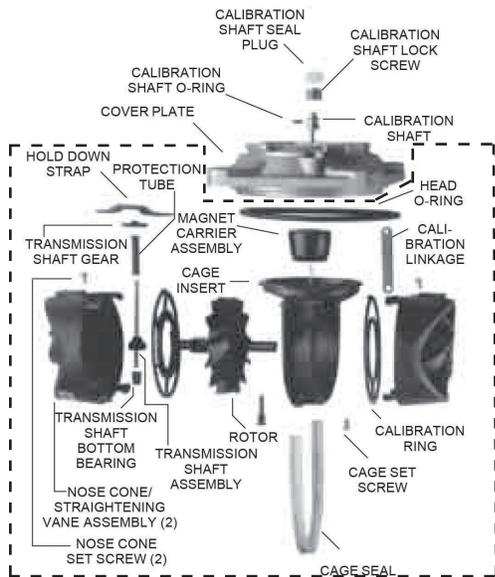
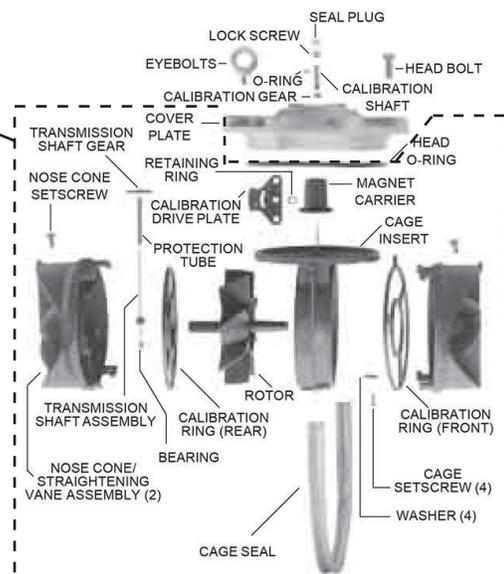
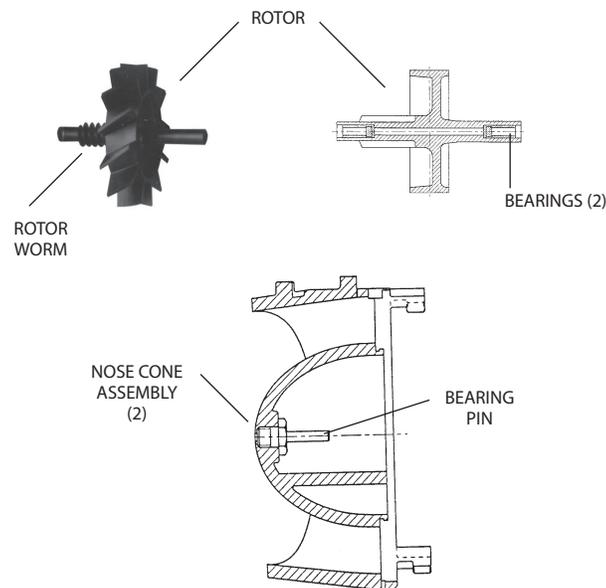

Figure 3: Meter head assembly, 1-1/2...4 in. meters
Figure 4: Meter head assembly, 6...12 in. meters
Figure 6: Rotor and nose cone assembly (1-1/2 in., 2 in., 3 in., 4 in. and 6 in. turbo head assemblies)
2. Remove the shroud by rotating the register assembly counterclockwise until it stops. This provides clearance so it can be lifted off the measuring element assembly. See Figure 3 and Figure 4.
3. To remove the measuring element from the cover, remove the calibration shaft seal plug and the lock screw (for 1-1/2...4 in. sizes). See Figure 3.
6. The measuring element insert can be removed from the cover plate for service or replacement by removing the cage set screws (quantity of one for 1-1/2...4 in. , quantity of 4 for the 6...12 in. size). See Figure 3 and Figure 4.
1. To remove the magnet carrier from the measuring element insert, lift it off the stainless steel pin. See Figure 3 and Figure 4.
3. Remove the hold-down strap (for the 1-1/2...4 in. only). See Figure 3.
The straightening vanes are an integral part of the upstream and downstream nose cone assemblies. See Figure 3 and Figure 4.
4. For 6...12 in. meters, remove the retaining ring that holds down the calibration drive plate, located under magnet carrier. See Figure 4 and Figure 6. Remove drive plate. Rotate calibration ring until pin clears slot of cage. Take hold of the nose cone/straightening vanes and turn clockwise. Pull the nose cone assembly out from the measuring element insert. Remove rotor assembly.
To disassemble the calibration ring assembly (see Figure 3, Figure 4, "Removing the Meter Head" on page 10 and "Removing the Straightening Vanes/Nose Cone" on page 11):
Check the rotor worm and blades for signs of damage and wear. Also inspect the bearing bushings in the front and rear shaft. If damage or wear has occurred, replace the element assembly (see *Figure 6*). If water deposits are found, remove any mineral deposits from the rotor blade surfaces, cage insert interior disc, and nose cone vanes and mating surfaces.
Inspect the rotor bearing pins in the straightening vane and nose cone assembly for signs of damage and wear (see *Figure 6*). The spherical end of the bearing pin must not show any drag lines, large flat spots and/or wear. If the bearing pin shows any of these conditions, replace the element assembly.